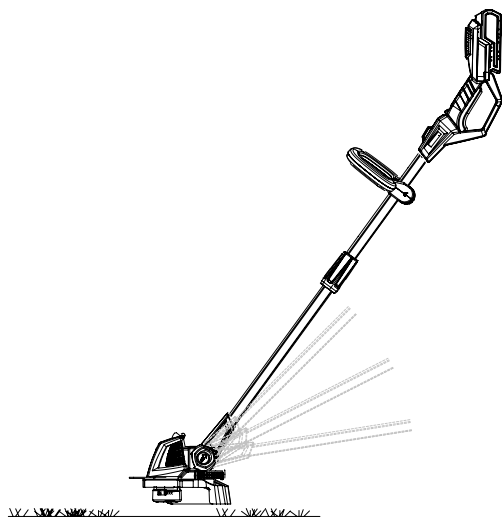

Fig. 9
**Edging Function** See Figure 9, page iii.